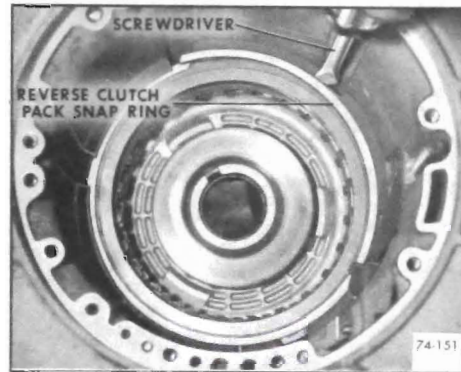

Figure 74-295
9. Install reverse clutch pack snap ring. See Figure 74-295.